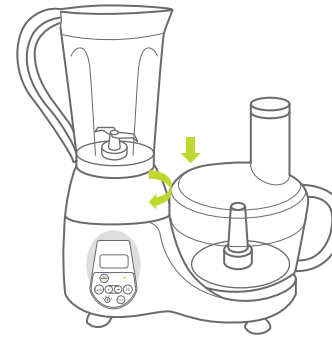

Fig. 18
2. Mount the blender jar onto the attaching hole and turn it clockwise until it is firmly fixed. (Fig. 18)